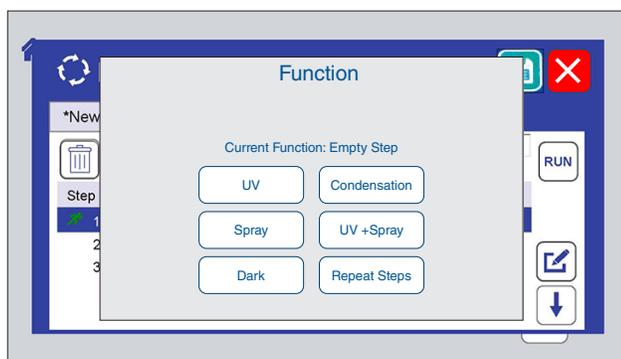

Figure 7: Touchscreen display for selecting test cycle function.
- The operator can quickly create new cycles by specifying functions (Figure 7), or run any of the programmed cycles.